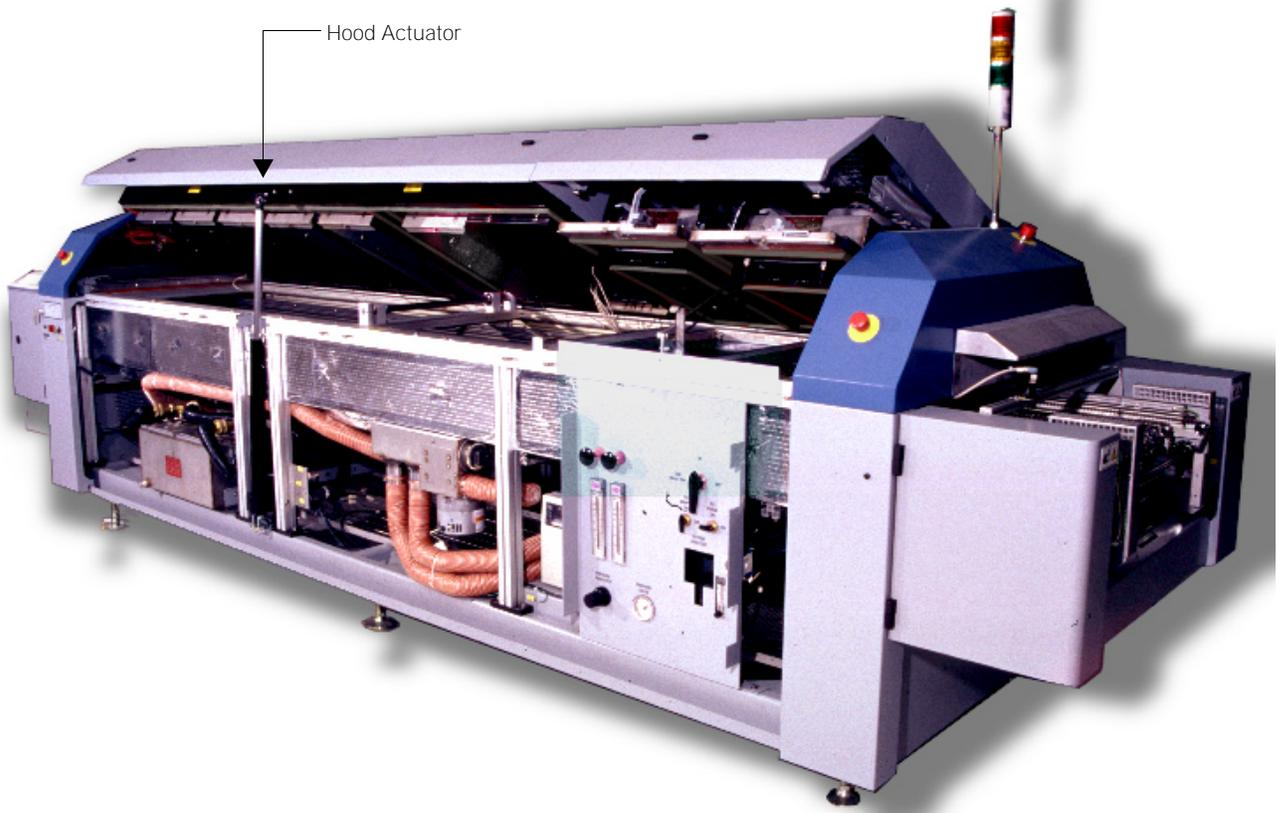

Figure 72: Machine Front — Panels Removed; Hood Open (OmniFlo™-7 Depicted)
- Remove the four (4) pieces of the Gasket Replacement Fixture and reserve.
- Remove the front panel that covers the hood actuator(s). Refer to Figure 72.